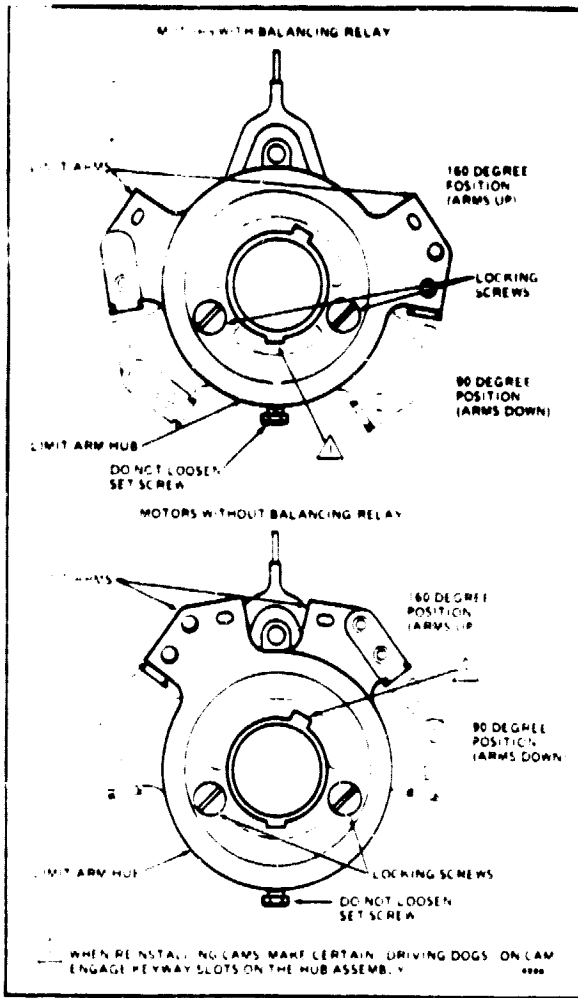

FIG. 6—CHANGE THE POSITIONS OF THE LIMIT ARMS TO ADJUST THE MOTOR STROKE.
^bSee Figs. 6, 10, and 11.
Step 1- Run the motor to approximately midstroke. Stop the motor by removing power to it. Remove the auxiliary end cover from the motor by taking out the 4 screws securing it. Be careful not to lose the washers (2) and spring on the motor shaft (M941C and D). Remove the switch cam assemblies (M941C, 1; M941D, 2; M941A and B have no switch cams).
Step 2- Loosen the 2 locking screws on the limit arm hub. (See Fig. 6.)